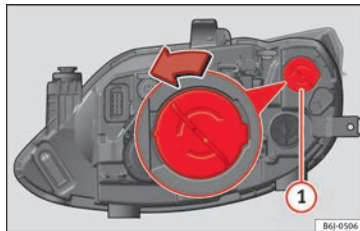
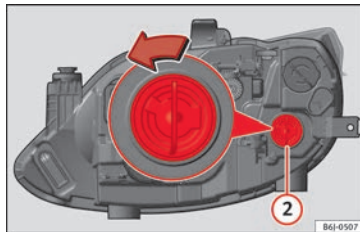

Fig. 83 Single headlight DRL light (day light).
Fig. 84 Single turn signal lamp.
- Turn the bulb holder » Fig. 83 ① or » Fig. 84 ② to the left and pull.